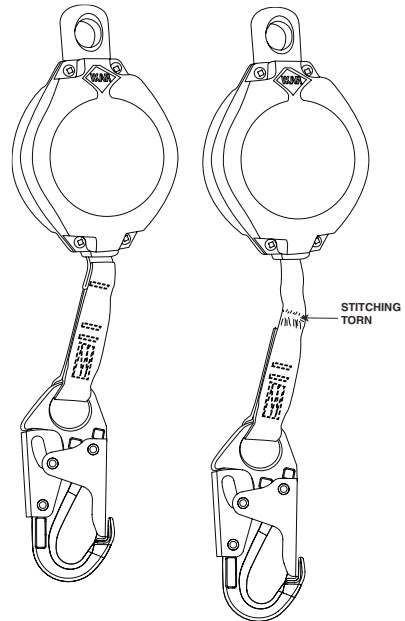

figure 1
5. Check the load indicator for signs of activation. On models with a web lifeline this is a stitch pattern near the hook (see figure 1). On all other models the snaphook contains a red impact indicator (see figure 2). If the device has